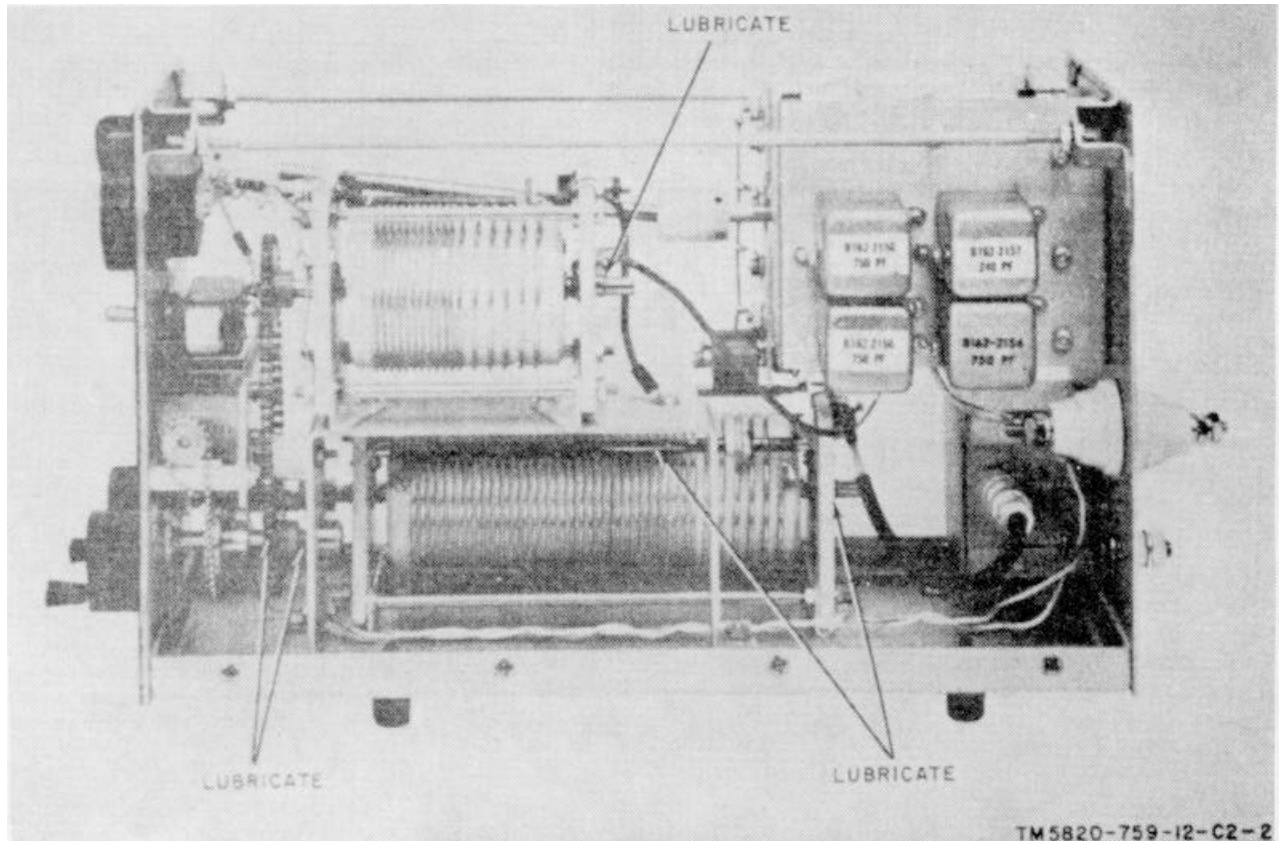

Figure 5-4. Antenna coupler, right side, location of lubrication points.
b. *Antenna Coupler* (figs. 5-4 and 5-4). In the antenna coupler, remove the cover (para 5-11a). Lubricate bearings indicated. Lightly lubricate the variable inductor roller rods, and the chain drive for L1 (fine tune inductor). Replace the antenna coupler cover.